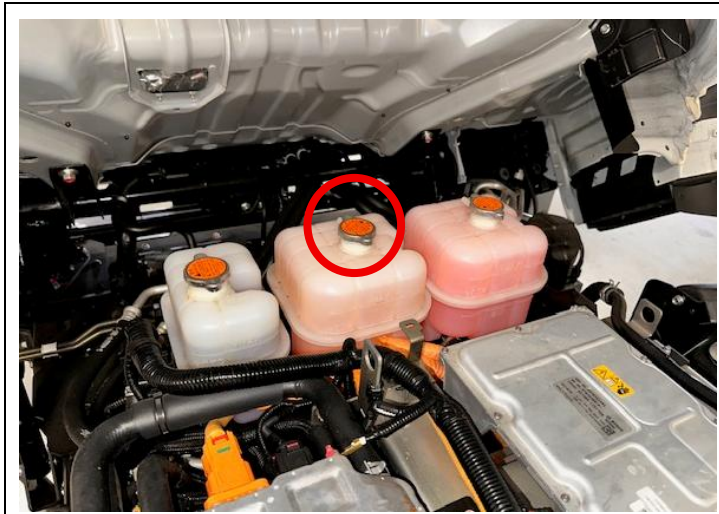

Figure 8
10. Remove the HV battery coolant reservoir cap. (See Figure 8.) Save the cap for later use.